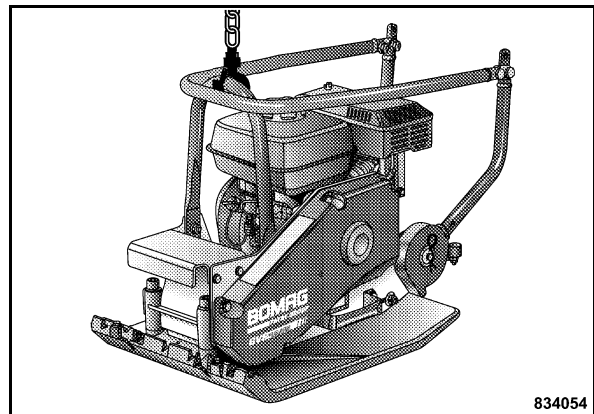

Fig. 29
- Always attach the lifting gear (rope) to the motor protection frame to load the vibratory plate on a transport vehicle (Fig. 29).